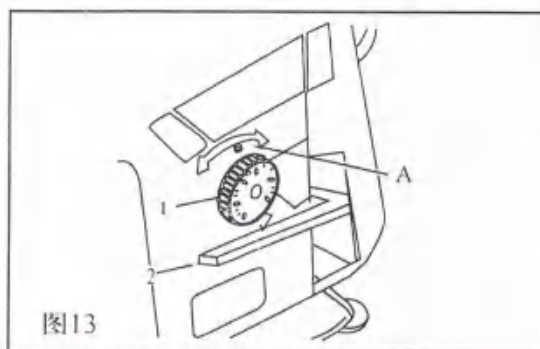

图13
底线卷绕时，线的穿法及切线如图13所示。
Thread the bobbin winder and wind the bobbin thread onto the bobbin illustrated in the figure 13.
11. 针距的调节(图13) ADJUSTING THE STITCH LENGTH (FIG.13)